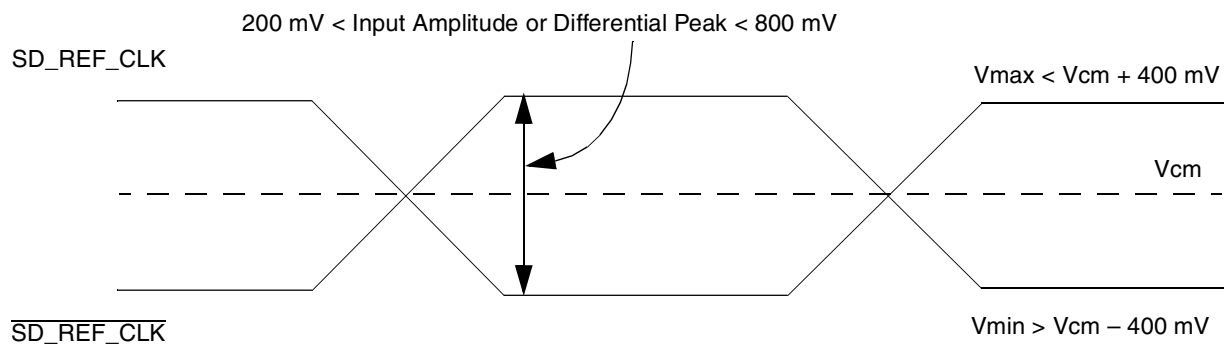

Figure 40. Differential Reference Clock Input DC Requirements (External AC-Coupled)
- For **external AC-coupled** connection, there is no common mode voltage requirement for the clock driver. Since the external AC-coupling capacitor blocks the DC level, the clock driver and the SerDes reference clock receiver operate in different command mode voltages. The SerDes reference clock receiver in this connection scheme has its common mode voltage set to XCOREVSS. Each signal wire of the differential inputs is allowed to swing below and above the common mode voltage (XCOREVSS). Figure 40 shows the SerDes reference clock input requirement for AC-coupled connection scheme.